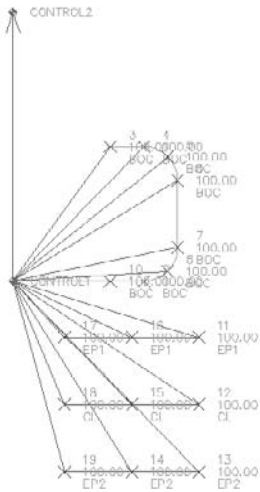

Figure 4.15
6. Wait as the interactive graphics draw the field book elements on the screen. When they have finished, you will see the points and linework in the drawing as shown in Figure 4.15.